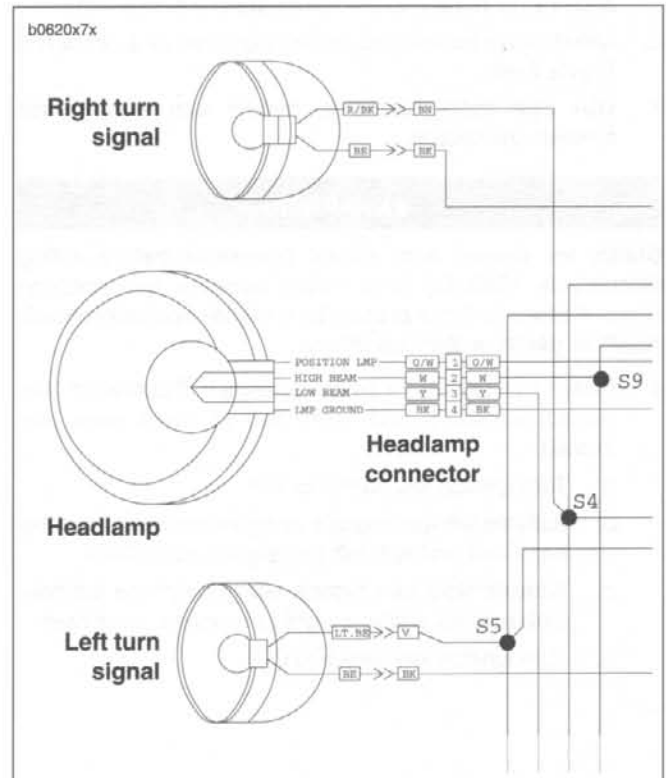
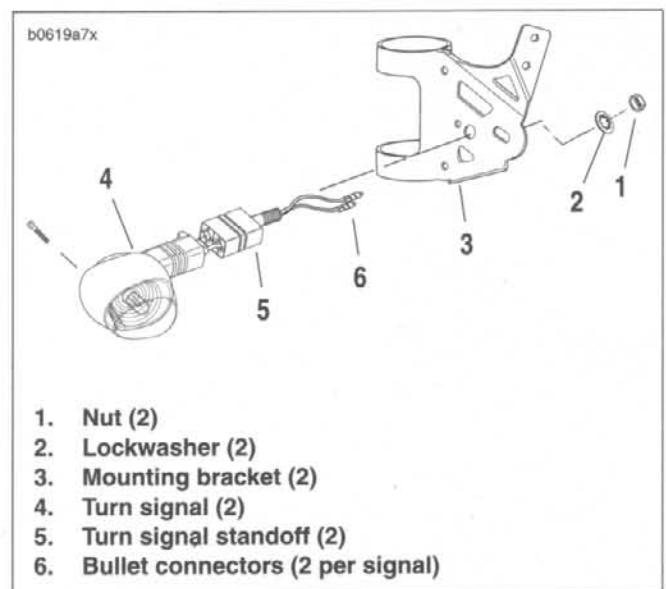

Figure 7-46. Front Turn Signal Connections
Figure 7-47. Front Turn Signals
2. See Figure 7-46. Disconnect bullet connectors on turn signal wires.
3. See Figure 7-47. Remove nut (1) and lockwasher (2) from mounting bracket (3).
4. Remove turn signals (4) and standoffs (5).
5. Pull bullet connectors (6) and wiring through hole in mounting bracket (3).
1. See Figure 7-47. Insert bullet connectors (6) through hole in mounting bracket (3).
2. Install turn signal (4) and standoffs (5) using lockwasher (2) and nut (1). Tighten to 25-28 **in-lbs** (2.8-3.2 Nm).
3. Attach bullet connectors on turn signal wires as shown in Figure 7-46.